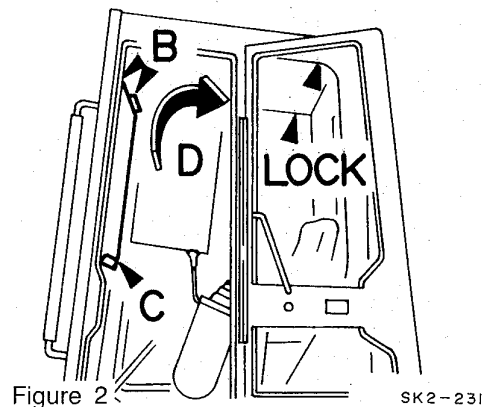

Figure 2 SK 2-231
2. Using the handle "C", lift the front window in the direction indicated by arrow "D" and slide it to the back. (Refer to Figure 2.)